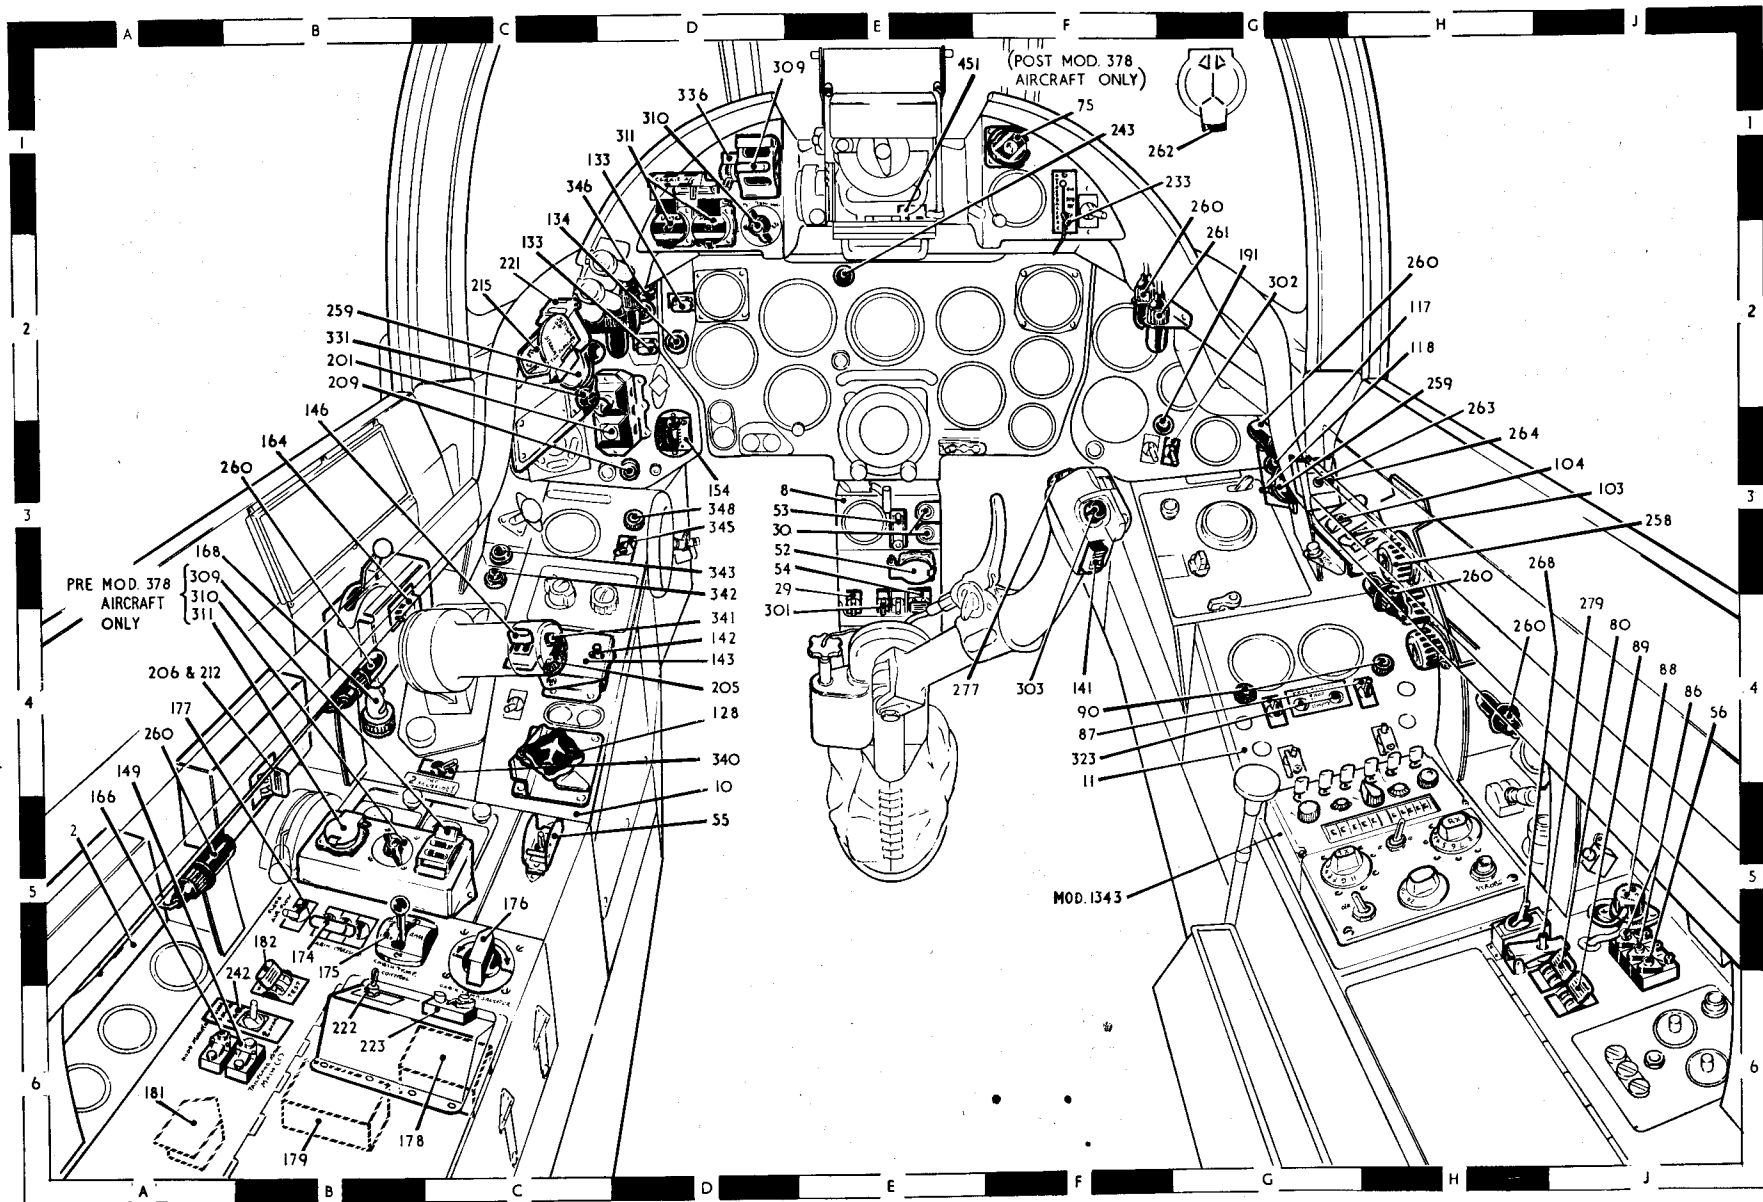

Fig.1 Equipment location - cabin
2. The location of the electrical equipment in this aircraft is illustrated in fig.1 to 5 inclusive. These illustrations should be used in